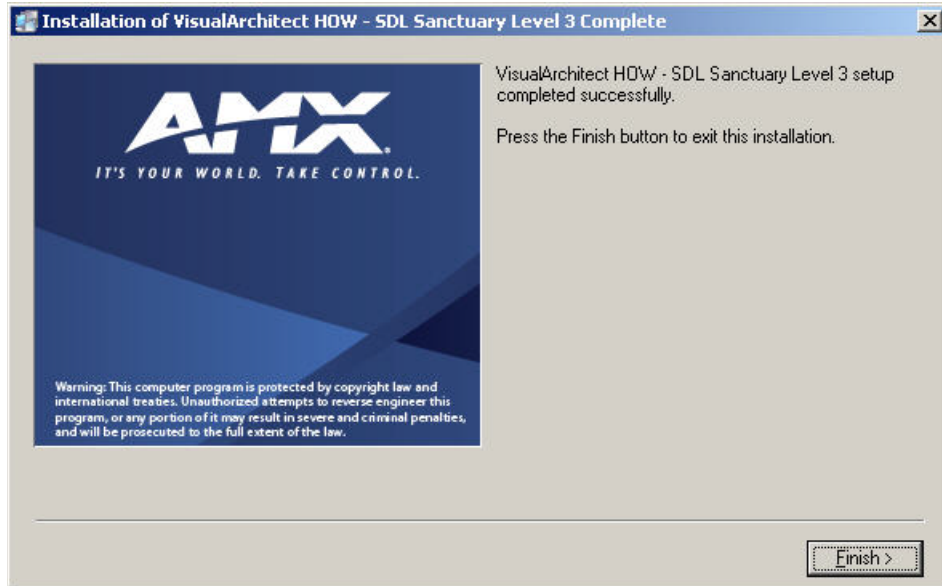

FIG. 32 System Design Library - Installation Complete
5. The program alerts you once the SDL installation is complete (FIG. 32):